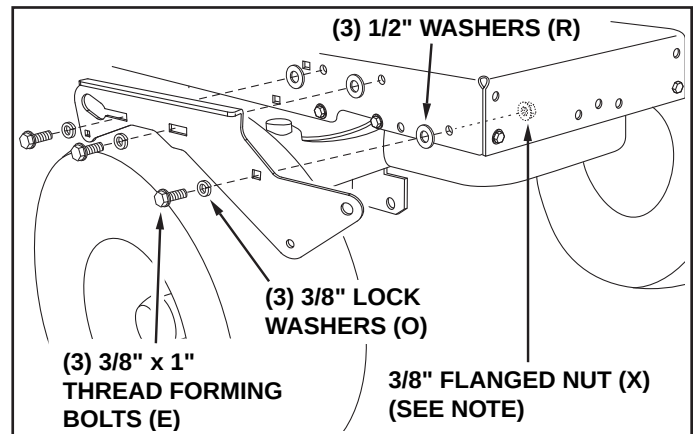

FIGURE 23
STEP 24: (SEE FIGURE 23)
- Fasten the R.H. Side Plate (bend facing out) to the three holes shown in the tractor frame. Use three 3/8" x 1" thread forming bolts (E), 3/8" lock washers (O) and 1/2" washers (R). Use the 1/2" washers as shims between the Side Plate and the tractor frame. Tighten all bolts and repeat for the L.H. side.